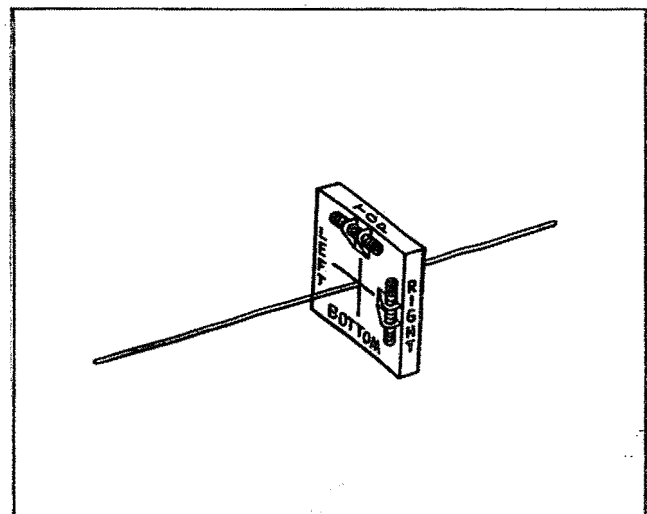

Figure 42
4. For convenience in distinguishing the right side from the left and the top from the bottom, imagine that the object is divided by two perpendicular lines intersecting at the pivot axis. (See figure 42).